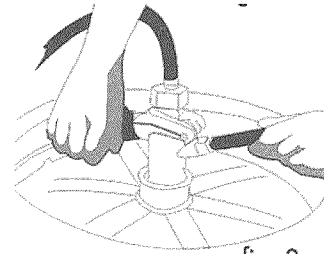

fig. 3
3. It is very important that the black rubber washer be installed inside the wing nut before connecting the beer line to the keg coupler. Remove the black rubber protective cap located on top of the keg coupler and screw the wing nut with the rubber washer on to the keg coupler. Hand-tighten firmly. (see fig. 3)